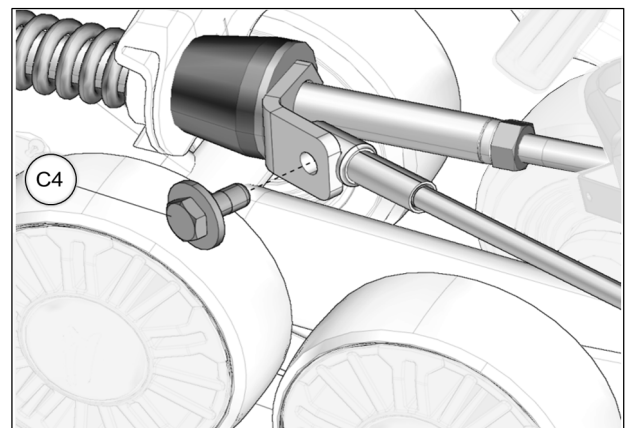

Fig. 26
16. Reverse steering wheel a little to be able to bolt support plate and cable together. Tighten provided bolt (C4) to 35 N•m [24 lb•ft]. See Fig. 26. Repeat steps on right side.